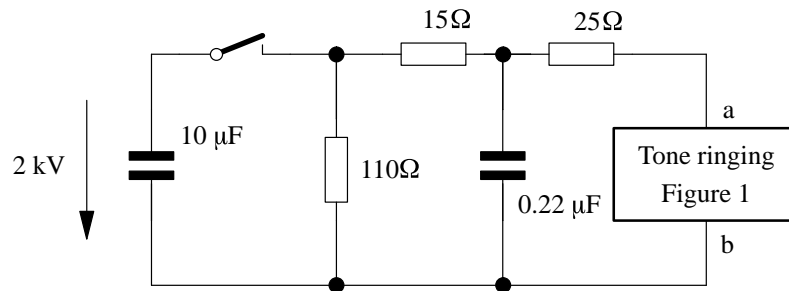

Figure 2
- 2) Testing of the circuit according to figure 2 does not destroy the circuit under following conditions: